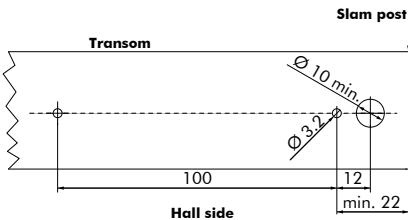

Figure 19: Drilling template
1. Drill two 3.2 mm (1/8 inch) holes for the mounting box with 100 mm distance into the transom. Drill a 10 mm (3/8 inch) hole into the transom for the sensor cable (Figure 19).